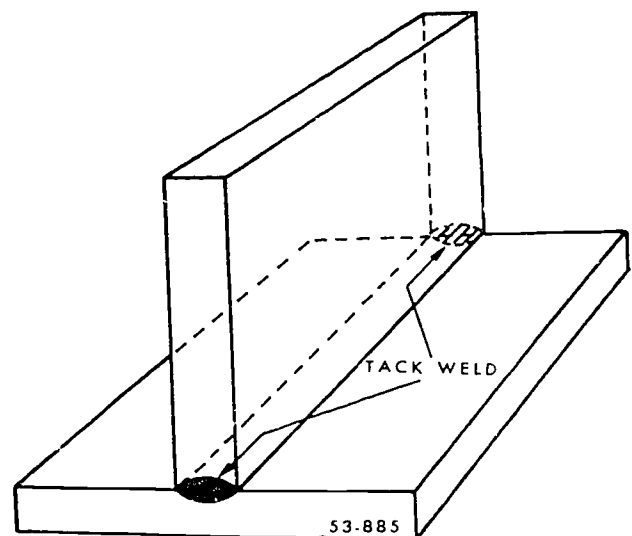

Figure 3-31. Tee joint tack welds.
**Tee Joints.** To make tee joints in the horizontal position, position the two plates at approximately right angles to form an inverted "T." The edge of the vertical plate may be tack-welded to the surface of the horizontal plate, as shown in figure 3-31. The horizontal tee joint is designed and prepared the same